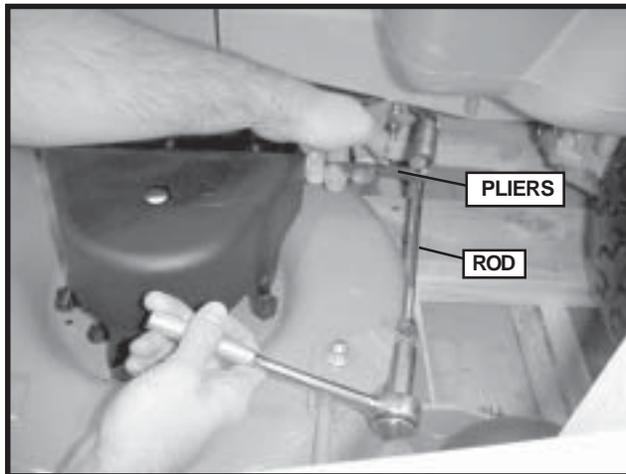

FIGURE 16
2. Using a 1/2" deep socket and pliers to hold the rod, remove the outer nut. See Figure 16.